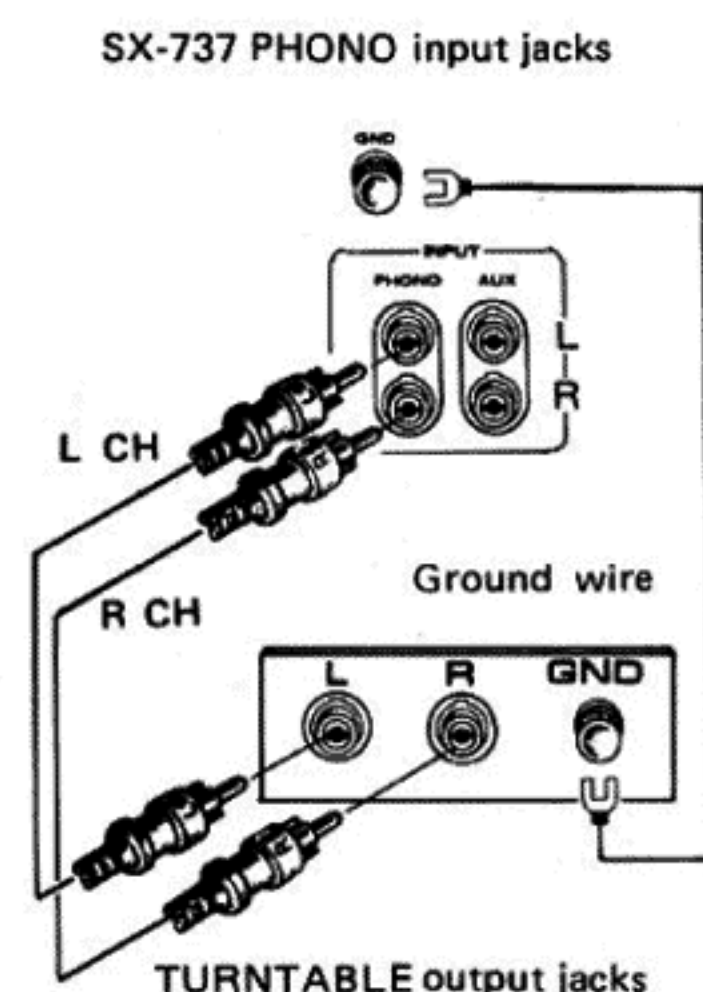

Fig. 7 — Connecting the SX-737 to turntable.
A stereo turntable with a moving magnetic (MM) cartridge can be connected to the PHONO input jacks (Fig. 7).